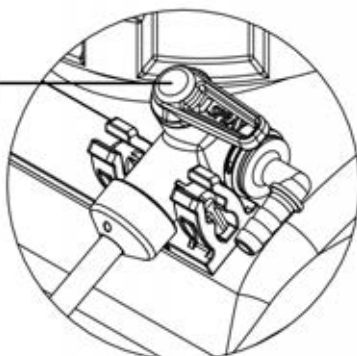

fig.12
8.2.1. If needed, rotate the broadcast nozzle so that the spray pattern is pointed down and evenly distributed. (fig.12)